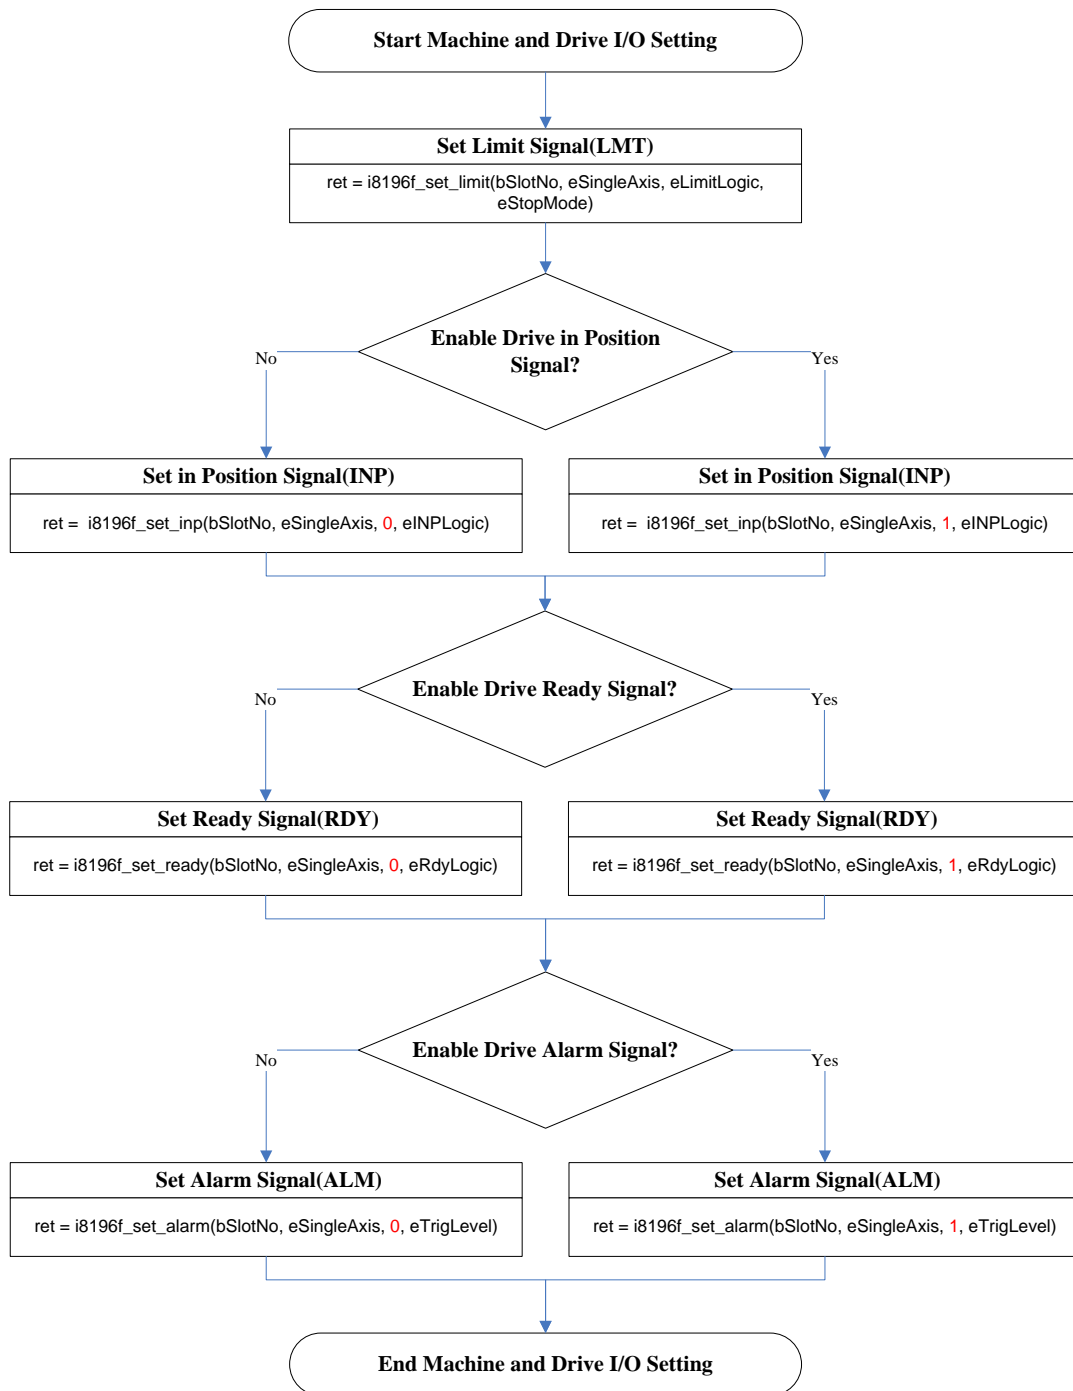

Figure 1: Axis digital I/O setting
- This function ensures that the I-8196F module is ready for executing motion commands. It is important to call this function before using the any other APIs (Figure 1).